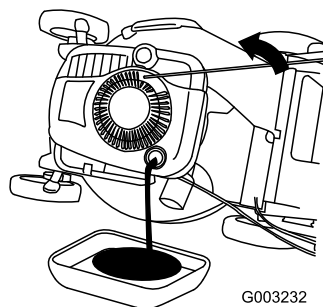

Figure 38
1. Tip the mower onto its side, with the air filter up, to drain the used oil out through the oil fill tube (Figure 38).